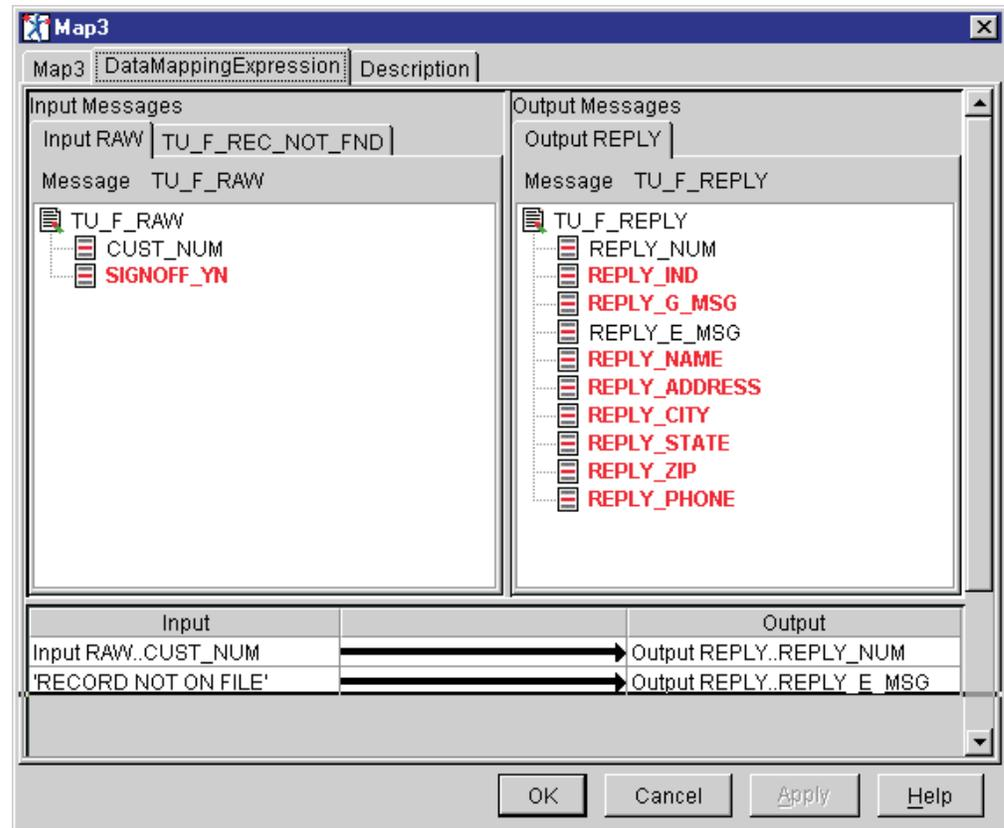

Figure 134. Mapping for Map3 node
- 4) Perform the mapping for the Map3 node as listed in Table 61 and shown in Figure 134 on page 175. On a REC\_NOT\_FND condition, the mapper sets an error message and passes along the customer number to the REPLY record. Use literal mappings to perform these field mappings.